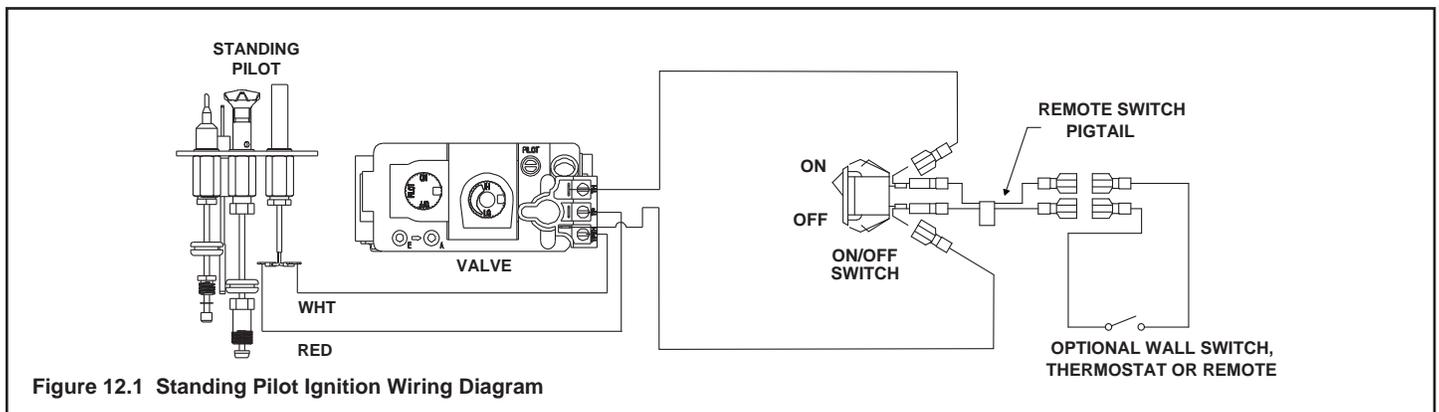

Figure 12.1 Standing Pilot Ignition Wiring Diagram
- The standing pilot ignition system wiring does not require a 110 VAC supply to operate. See Figure 12.1.